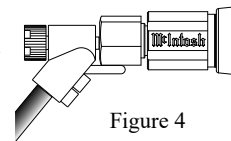

Figure 4
4. Referring to figure 4, connect the Loudspeaker hookup cables with banana plugs into the hole at the end of the terminal to the ML1 Negative (-) LOW Input Terminal and Positive (+) LOW Input Terminal.